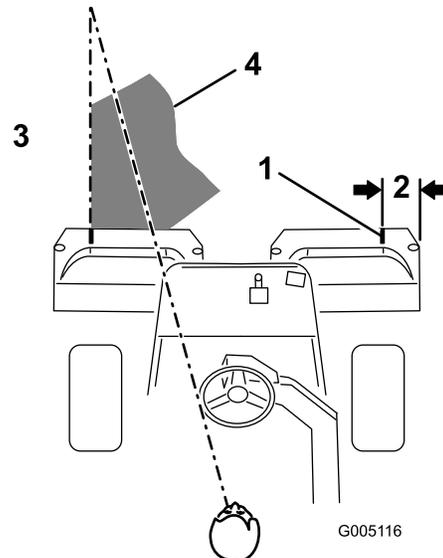

Figure 26
**Note:** To assist in maintaining a straight line across the green and keeping the machine an equal distance from the edge of the previous cut, imagine a sight line approximately 1.8 to 3 m (6 to 10 ft) ahead of the machine to the edge of the uncut portion of the green (Figure 26). Include the outer edge of the steering wheel as part of the sight line; i.e., keep the steering wheel edge aligned with a point that is always kept the same distance away from the front of the machine.